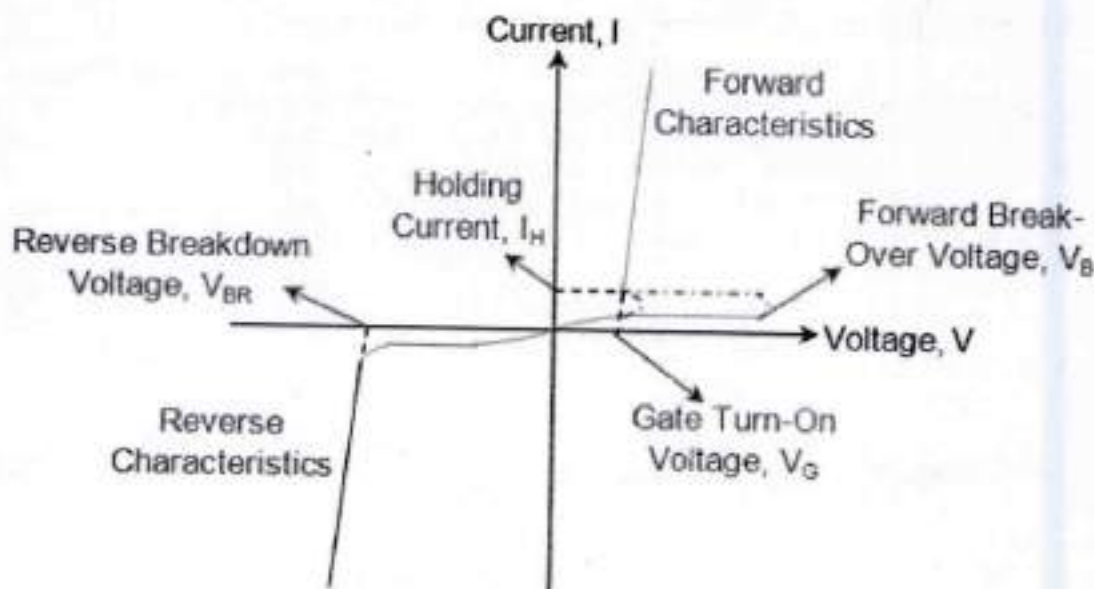

Figure 4 V-I Characteristics of SCR
Further, in this state, the SCR behaviour will be identical to that of a typical diode as it exhibits both the flow of reverse saturation current (green curve in Figure 4) as well as the reverse break-down phenomenon (black curve in Figure 4).
2. **Forward Blocking Mode:** Here a positive bias is applied to the SCR by connecting its Anode to the positive of the battery and by shorting the SCR cathode to the battery's negative terminal, as shown by Figure 3b. Under this condition, the junctions J1 and J3 gets forward biased while J2 will be reverse biased which allows only a minute amount of current flow through the device as shown by the blue curve in Figure 4.
3. **Forward Conduction Mode:** SCR can be made to conduct either (i) By Increasing the positive voltage applied between the Anode and Cathode terminals beyond the Break-Over Voltage, V_B or (ii) By applying positive voltage at its gate terminal as shown by Figure 3c. In the first case, the increase in the applied bias causes the initially reverse biased junction J2 to break-down at the point corresponding to Forward Break-Over Voltage, V_B . This results in the sudden increase in the current flowing through the SCR as shown by the pink curve in Figure 4, although the gate terminal of the SCR remains unbiased.